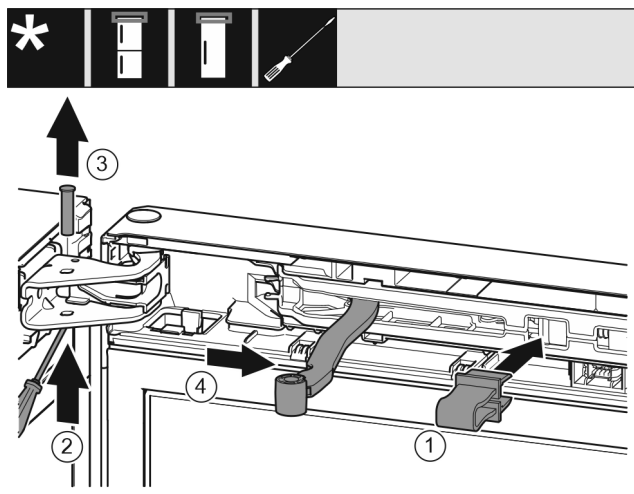

Fig. 9
- Engage the locking device in the opening. Fig. 9 (1)
- Push out the bolt with a screwdriver. Fig. 9 (2)
- Remove the bolt upwards. Fig. 9 (3)
- Turn the hinge in the direction of the door. Fig. 9 (4)